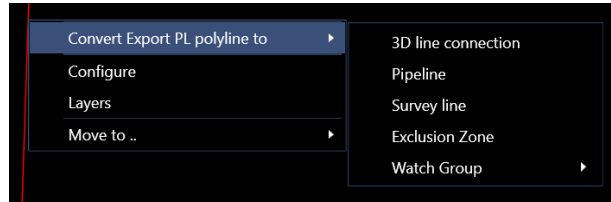

FIGURE 8-53 WINDOWS – 2D MAP - MAP WINDOW - CREATE OBJECT OPTION
- From the resulting menu (see Figure 8-53), select the type to convert to from the polyline.